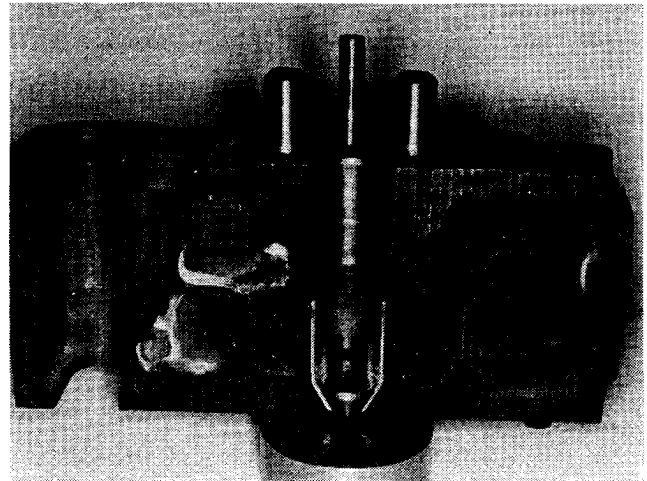

Fig. 2-3, (N10278). ST-1179 Injector Sleeve Holding Tool
2. Install ST-384, ST-923 or ST-1179 Injector Sleeve Holding Tool or scrap injector assembly in each sleeve. Fig. 2-3.